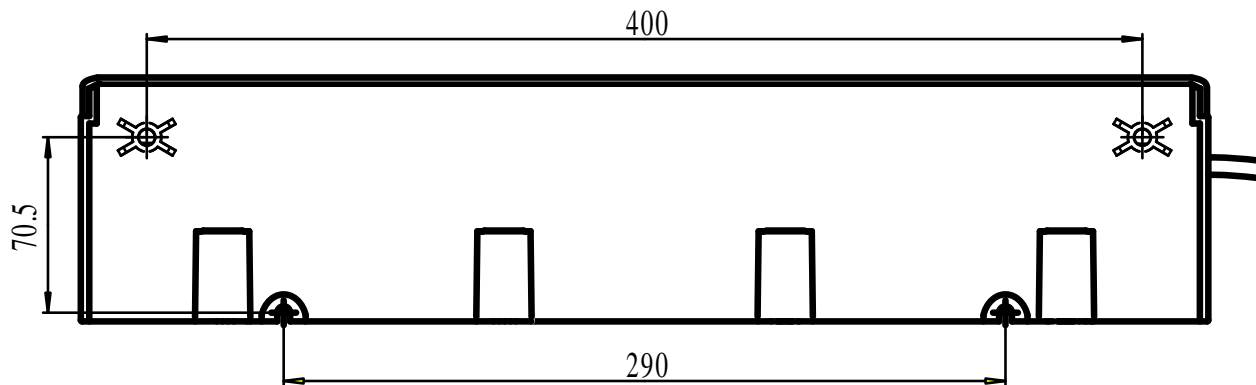

Figure 2: Mounting dimensions [mm] - Handset Charging Rack from the back
Measure and mark the drill holes by using the dimensions in [Figure 2: Mounting dimensions \[mm\] - Handset Charging Rack from the back](#) on page 8. Drill and fasten the Handset Charging Rack on the wall with four screws.
- 1) If the additional Handset Charging Rack has not yet been mounted on the wall, do this according to [Figure 2: Mounting dimensions \[mm\] - Handset Charging Rack from the back](#) on page 8.